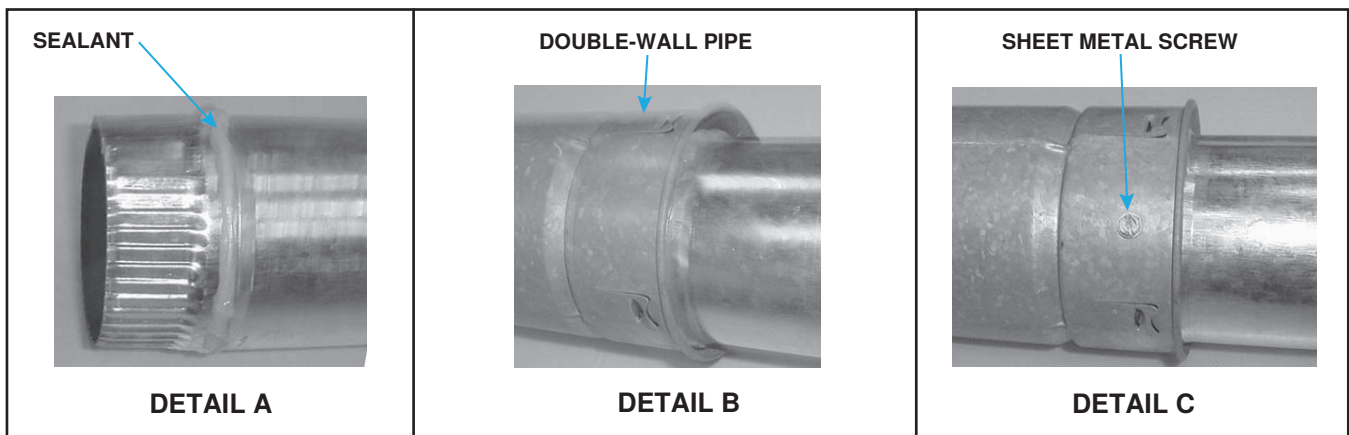

Figure 12. Connecting Double-Wall (Type B) Pipe to Single-Wall or Category III Vent Pipe
- a. Apply continual 1/4-inch bead of silicone sealant (see Figure 12, DETAIL A) around circumference of pipe.
- b. Before sealant has any time to dry, insert pipe with sealant into inner wall of double-wall pipe (see Figure 12, DETAIL B) until bead of sealant contacts inner pipe to create sealed joint.
- c. Drill three small holes—spaced equally around double-wall pipe—below sealant ring (see Figure 12, DETAIL C) and insert 3/4-inch-long sheet metal screws to secure joint. Do not overtighten screws.